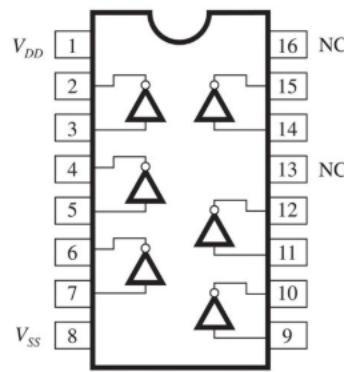

Figure 9: Schematic of the 4049 Hex Inverter.
Each chip has lettering and numbering on it that indicates its functionality. The *pins* on the sides of the chip provide connections to the circuitry (i.e. transistors) that is built into the chip. Figure 9 shows how the pins of the 4049 chip are connected to the inverters (NOT gates) that are built into this chip.
5. Notice the semi-circular notch in one edge of the chip and also shown in Figure 9. What is the purpose of this notch? NOTE: Some chips may have a full circle cut into the plastic of the chip rather than just a notch in the edge.